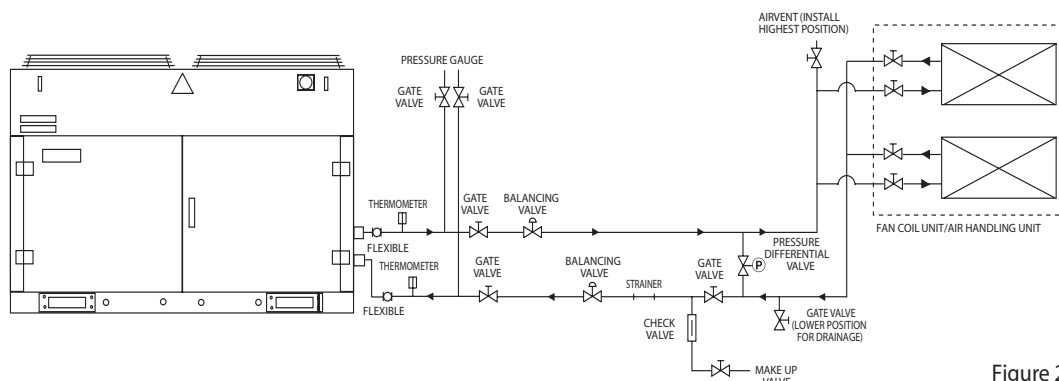

Figure 2
- Users are recommended to install the pipe and accessories as shown in Figure 2.